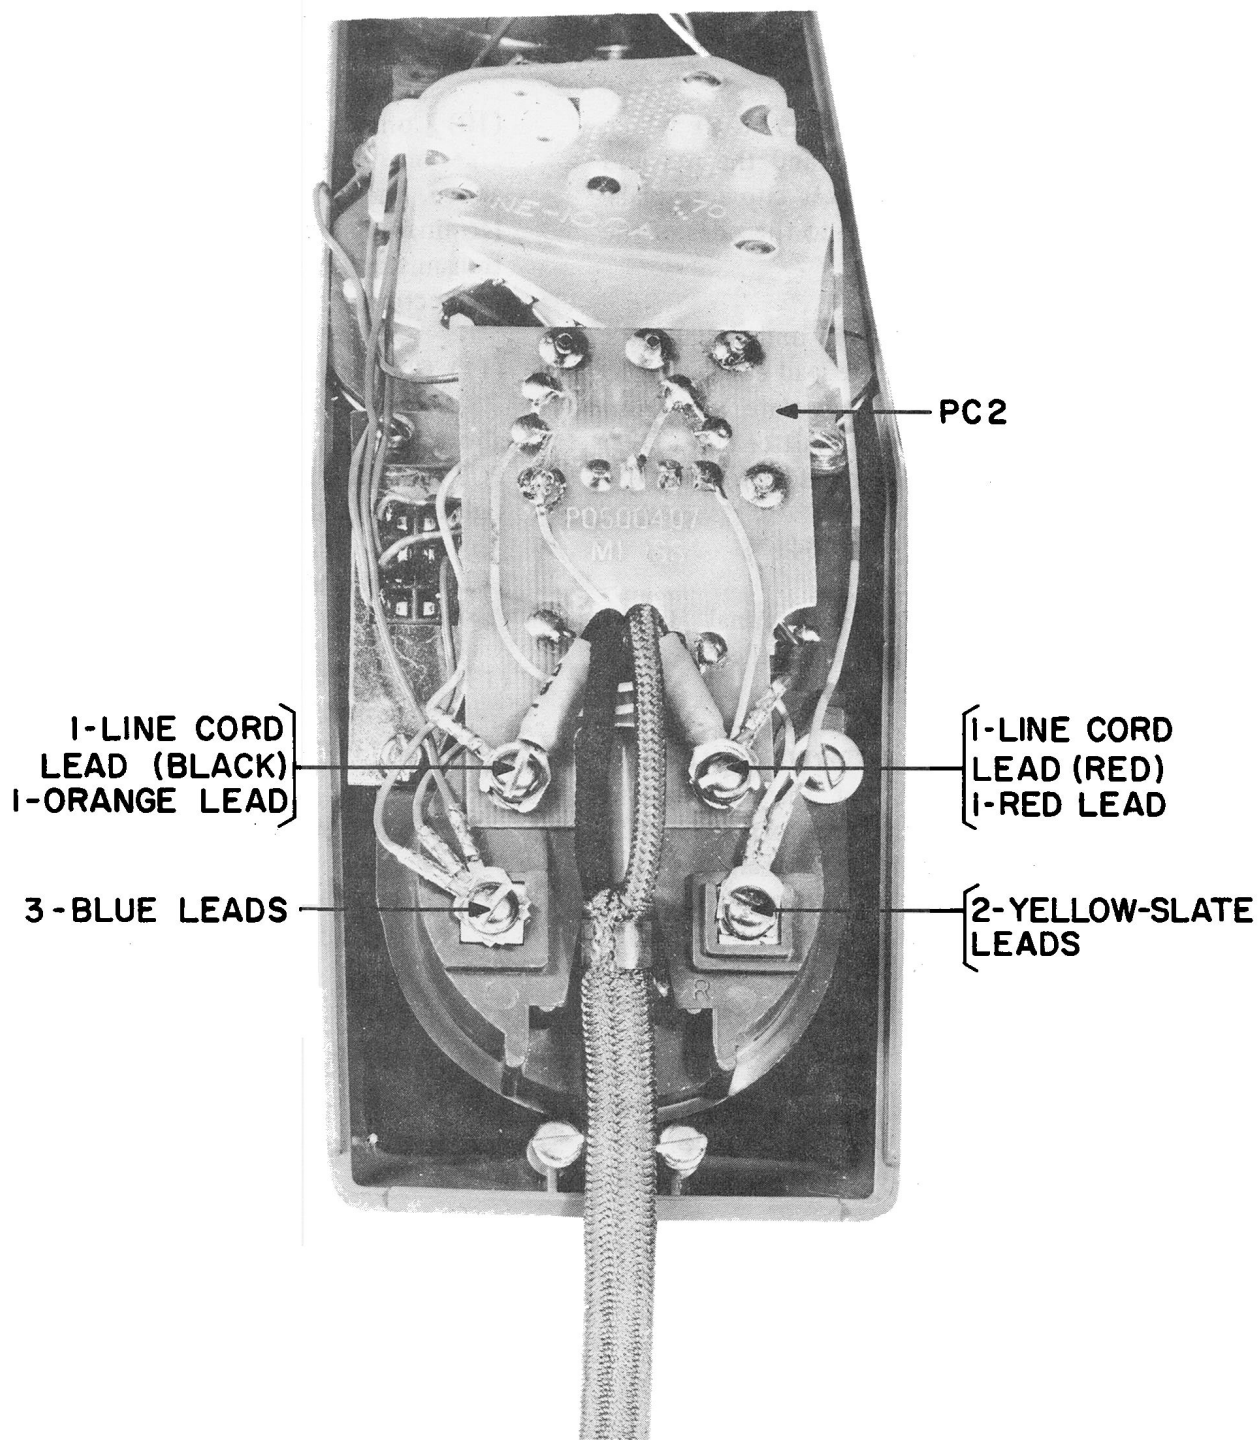

Fig. 10 — QSE4B Type Handset — Cover Removed — Showing Connection of Line Cord and Assembly of PC2 (P0500416) For Conversion Purposes
- (1) See 4.02 for instructions on opening the handset.
- (2) Disconnect and replace line cord, ensuring that the cord is properly dressed in the housing (see Fig. 10).
- (1) Open handset as described in para. 4.02.
- (2) Remove the two screws (item 6) which fasten the line cord leads and the red and orange leads to the transmitter cup terminals. Fold the red and orange leads to the sides of the handset.
- (3) Remove slate-red lead from under dial plate screw (item 1), the white lead connected to terminal C of PC2, the yellow-slate lead from under terminal R on the transmitter cup (TB2) and the red and blue leads from TB2 to S3.
- (4) Remove original PC2 (P0500417).
- (5) Insert slate-red lead into terminal B and white lead into terminal C on the new PC2 (P0500416).
- (6) Carefully place new PC2 (P0500416) into position and ensure that the yellow-slate lead is dressed between the transformer on PC2 and the transmitter cup (item TB2) and that the transformer bobbin rests on the raised portion of the instrument section housing between the dial and pushbutton (item S1). The bracket of the transformer should now be located over the pushbutton.
- (7) Connect the yellow-slate lead from PC2 to terminal "R" of the transmitter cup with the existing yellow-slate lead on that terminal.
- (8) Insert the two screws (item 6) through the mounting holes in PC2 and into the terminal screw holes in the transmitter cup.
- (9) Ensure that the line cord is passed through the cord hole in the handset back cover (item 23B).
- (10) Connect the red lead, which was moved to one side of the handset in sub-para. 2 above, and the red lead of the line cord, to the terminal immediately above terminal "R" on the transmitter cup (see Fig. 10). Tighten this connection.
- (11) Connect the orange lead which was moved to one side of the handset in sub-para. 2 above, and the black line cord lead to the other PC2 mounting terminal (rocker switch side) and tighten the mounting screw (see Fig. 10).
- (12) Dress leads and line cord as shown in Fig. 10.
- (13) Replace handset back cover, line cord grommet and card retainer window as outlined in para. 4.09.